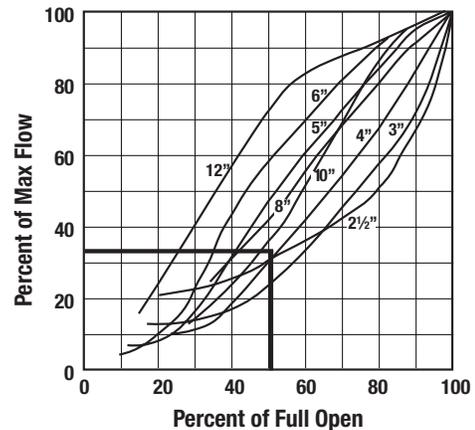

Fig. 5
2. Refer to Series TDV Performance Curves with valve in full open position (Fig. 5).
4. On the Series TDV Performance Curve (Fig. 5) locate the differential pressure obtained in Step 6.3.2 and project line horizontally across to intercept with Valve Performance Curve. Drop a line vertically down to read the flow rate at the bottom of the chart.
- From the Performance Curve (Fig. 5), a 4 in. valve with 5.4 ft. pressure drop (1.65m) represents a flow of 400 USgpm (25.2 l/s).